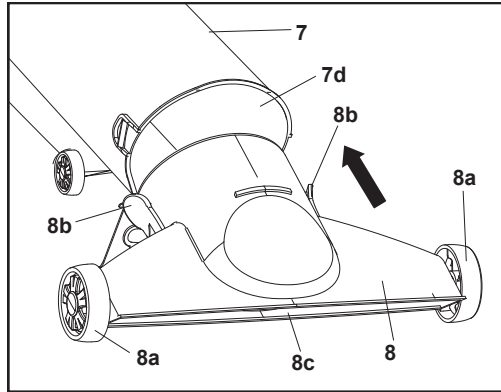

Fig. 5
For the convenience of collecting garden leaves on the roadside or pavement, a flat vacuum tube (8) with guide rollers (8a) can be quickly assembled on the round nozzle (7d) of the lower tube (7) (Fig. 5).
1. Align the flat vacuum tube (8) to the round nozzle (7d) of the lower tube (7) and insert it all the way to the stop (Fig. 5). Ensure that the two clips (8b) lock in place.
3. To remove the flat vacuum tube (8), release the two clips (8b) from the lower tube and pull it away.